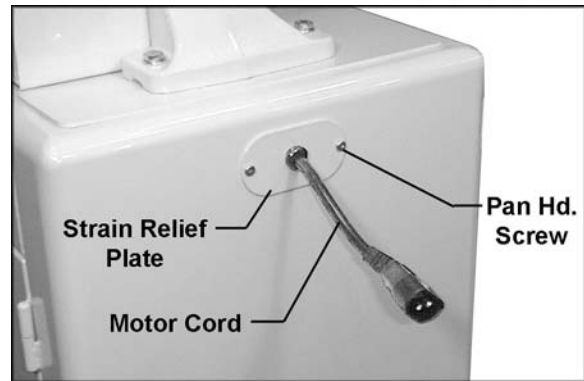

Figure 12
5. Push motor cord and strain relief plate through the opening in the side of the stand (Fig. 12). Fasten the strain relief plate to the stand with two M5 x 12 pan head machine screws (shown in item B, page 7).